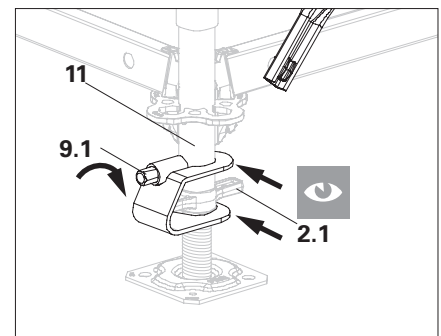

Fig. A1.11b
2. Tighten the spindle locking with the screw (**9.1**) in the hole of the vertical (**11**). (Fig. A1.11b)